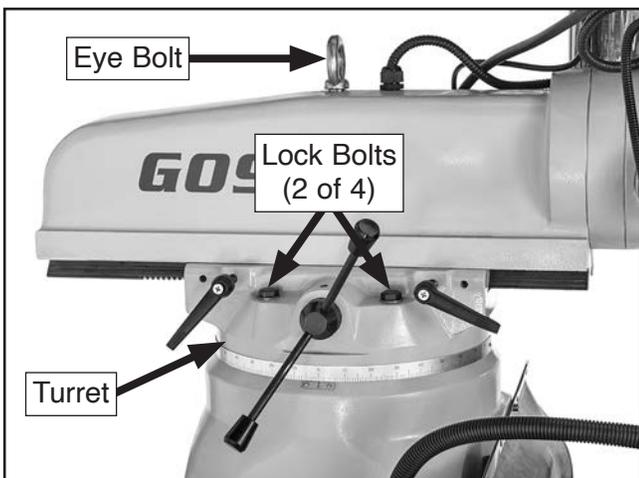

Figure 11. Location of eye bolt and lock bolts.
4. Ensure eye bolt (see **Figure 11**) is threaded all the way into ram, and turret lock bolts are tight.